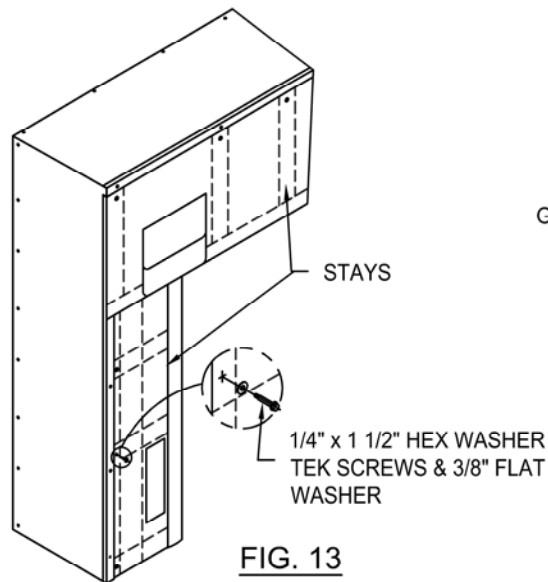

FIG. 13
- *Using 1/4" x 1 1/2" hex washer tek screws along with 3/8" flat washers; fasten vertical panels and header curtain by screwing through the center of each stay, close to the trim angle (fig. 13).